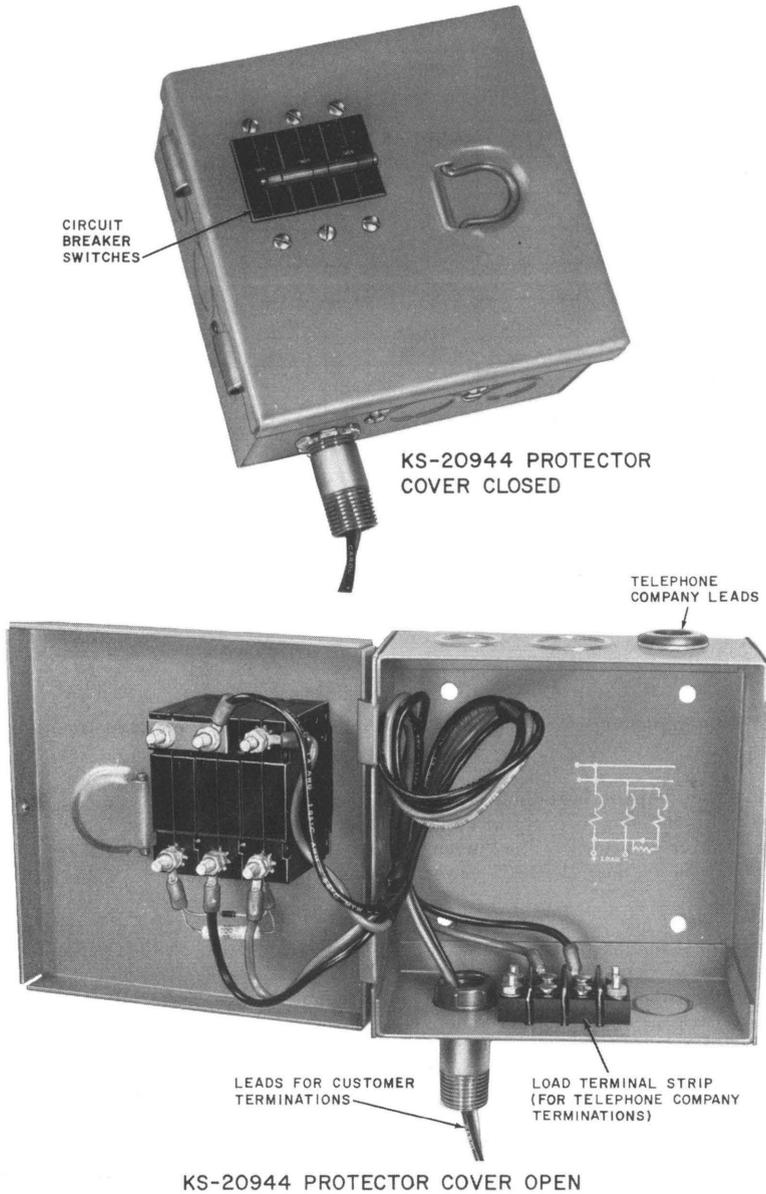

Fig. 8—KS-20944 Protector
- Protector, KS-20944 (Fig. 8, select list number from Fig. 17) (must be provided when a CP dc power supply is used).